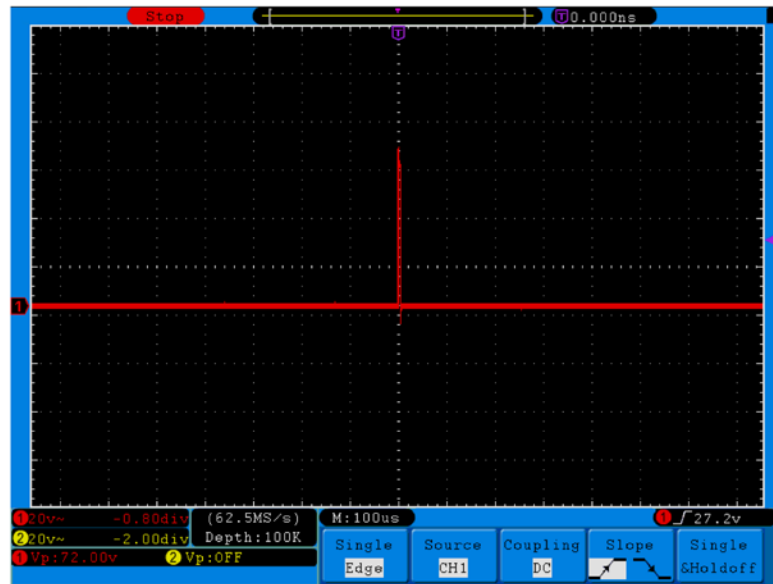

Fig. 81 Capture the Single Signal
15. If the **Trigger State Indicator** at the top of the screen does not indicate **Ready**, push down the **Run/Stop** button and start acquiring, waiting the emergence of the signal in conformity with the trigger conditions. If a signal reaches to the set trigger level, one sampling will be made and then displayed in the screen. With this function, any random occurrence can be captured easily. Taking the burst burr of larger amplitude for example, set the trigger level to the value just greater than the normal signal level, and then presses the **Run/Stop** button and waits. When there is a burr occurring, the instrument will trigger automatically and record the waveform generated during the period around the trigger time. With the **HORIZONTAL POSITION** knob in the horizontal control area in the panel rotated, you can change the horizontal position of the trigger position to obtain the negative delay, making an easy observation of the waveform before the burr occurs (see **Fig. 81**).